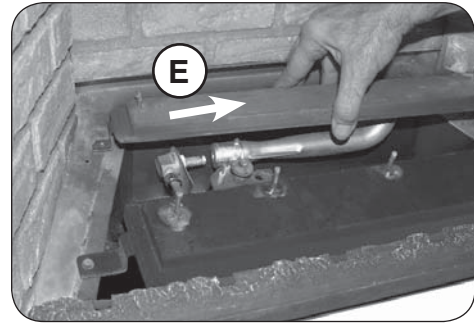

Fig. 54-2 Remove burner
5. Remove burner by sliding it to the right, so that the venturi tube clears the orifice, then fully out. See Fig. 54-2, "E".